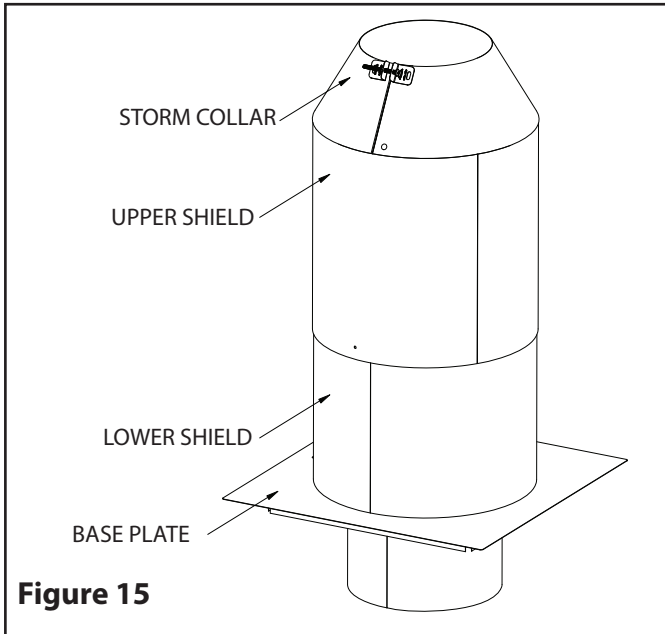
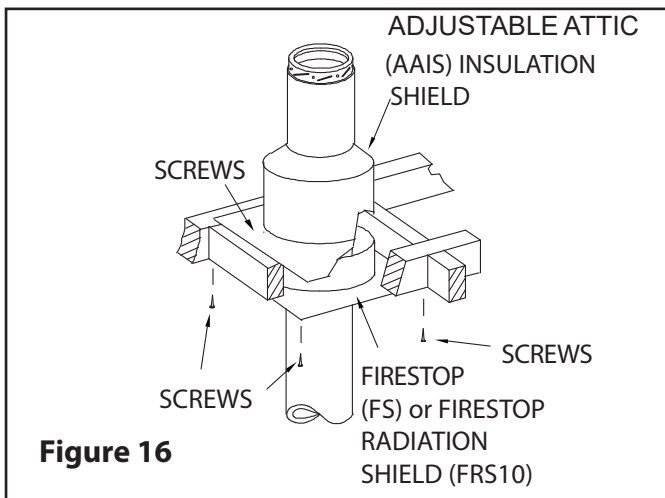

Figure 15
Figure 16
Step 5.1D: At the attic level, install a Firestop (FS or FRS10) on underside of frame at ceiling. The Attic Radiation Shield (AAIS) must be installed on its baseplate atop the frame from above. Secure to framing with 1" wood screws. (see Figure 15).
The Adjustable Attic Insulation Shield (Figure 16) is designed to keep insulation materials from coming into contact with the chimney. Adjustable from 12" to 22", it must meet the insulation level requirement of the National Building Code. Attic insulation must be 2" below the storm collar. Minimum overlap of 1" is required prior to securing the 2 halves (Upper and Lower Shields) together. See Figure 15.